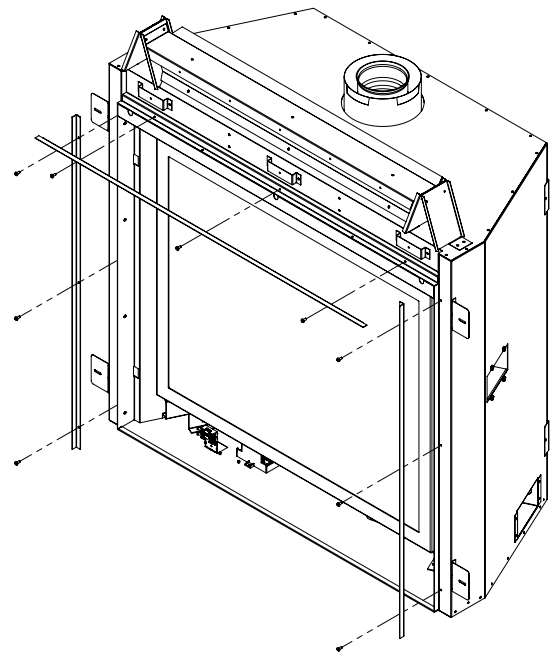

Figure 31: Outer finishing edge removal / replacement
- a) Remove the existing stepper motor using a T20 screwdriver (see Figure 31).